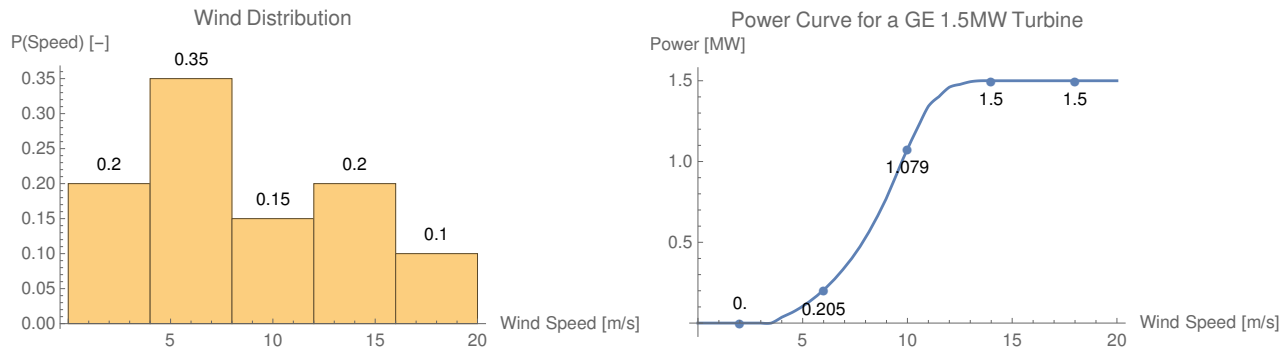

Figure 1: Wind distribution (left) and power curve (right) for problem 2
2. Consider that there is a site at which a developer wants to put a GE 1.5MW turbine. There is a known probability distribution of wind speeds at that site, and the turbine's power curve is known. Both can be found in Figure 1.